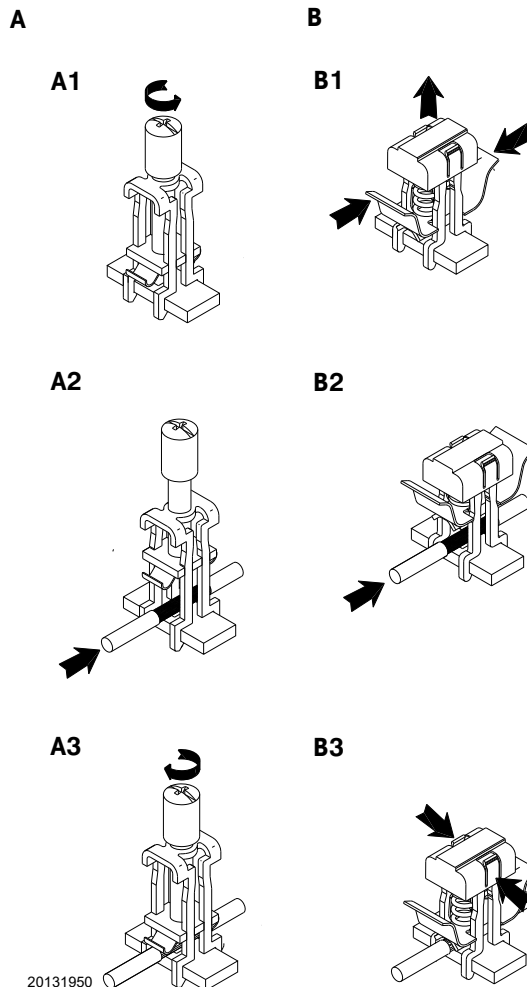

Fig. 25
- unscrew the screw until space is created for inserting the shielding of the shielded cable A1)(Fig. 25);
- pull the indicated tabs upwards and lift until locked in the open position B1)(Fig. 25);